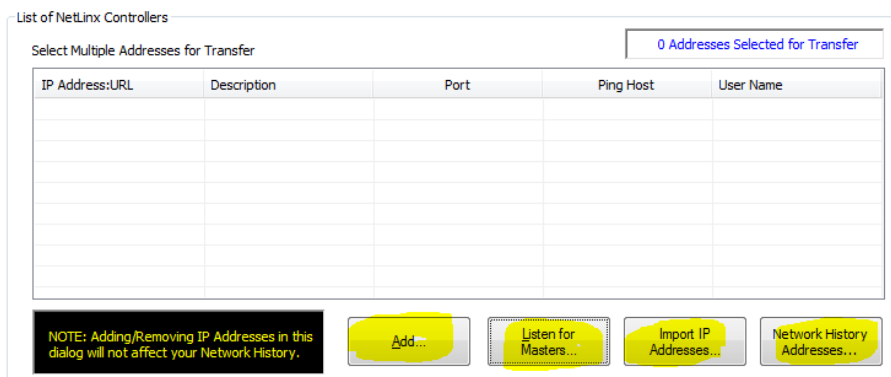

FIG. 479 NetLinX Studio - List of NetLinX Controller
- Add one or more master IPs/URLs from the list stored in NetLinX Studios Master Connection Settings (FIG. 479):